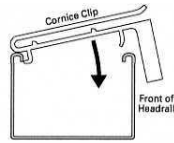

Fig. 26
- To attach the clip, hook the back of the clip to the rear lip of the headrail. (Fig. 26)